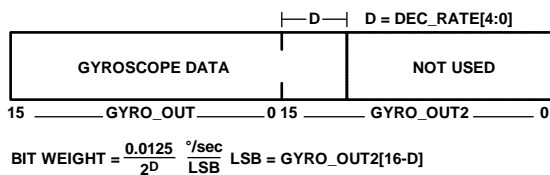
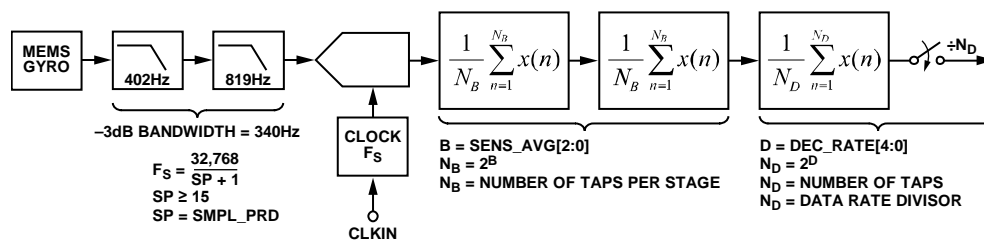

Figure 14. Gyroscope Output Format, DEC_RATE[4:0] > 0
Figure 18. Sampling and Frequency Response Block Diagram
The GYRO_OUT2 register (see Table 11) captures the bit growth associated with the decimation filter shown in Figure 18, using a MSB-justified format. The bit growth starts with the MSB (GYRO_OUT2[15]), is equal to the decimation rate setting in DEC_RATE[4:0] (see Table 18), and grows in the LSB direction as the decimation rate increases. See Figure 14 for more details.
Figure 18 provides a block diagram for the sampling and digital filter stages inside the ADIS16135. Table 15 provides a summary of registers for sample rate and filter control.
[15:0]	Clock setting bits; sets F_s in Figure 18
The AVG_CNT register (see Table 17) provides user controls for the low-pass filter. This filter contains two cascaded averaging filters that provide a Bartlett window FIR filter response (see Figure 18). For example, set AVG_CNT[7:0] = 0x04 (DIN = 0xA004) to set each stage to 16 taps. When used with the default sample rate of 1024 SPS, this establishes a -3dB bandwidth of approximately 20 Hz for this filter.
[2:0]	Binary; B variable in Figure 18; maximum = 110 (6)
The DEC_RATE register (see Table 18) provides user control for the final filter stage (see Figure 18), which averages and decimates the output data. For systems that value lower sample rates, this filter stage provides an opportunity to lower the sample rate while maintaining optimal bias stability performance. The -3 dB bandwidth of this filter stage is approximately one half the output data rate. For example, set DEC_RATE[7:0] = 0x04 (DIN = 0xA204) to reduce the sample rate by a factor of 16. When the factory default 1024 SPS sample rate is used, this decimation setting reduces the output data rate to 64 SPS and the sensor bandwidth to approximately 31 Hz.
[4:0]	Binary; D variable in Figure 18; maximum = 1000 (16)